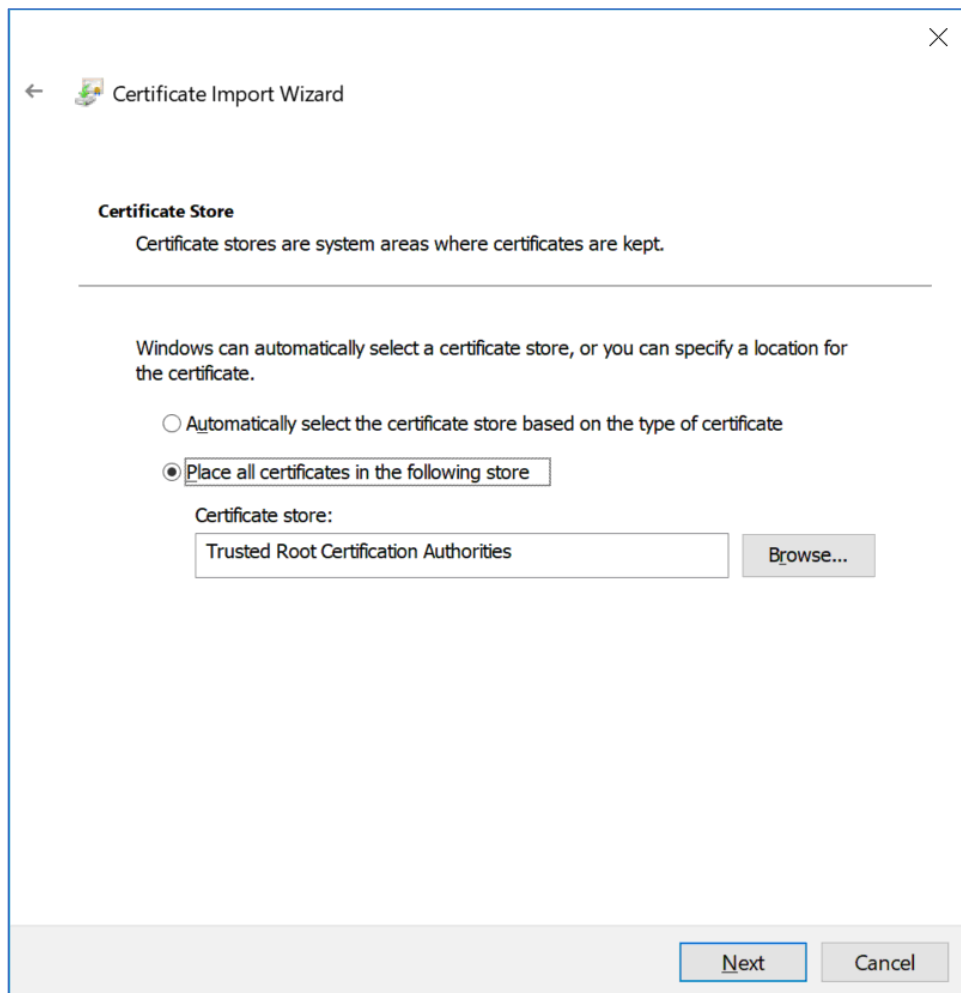

Figure 341: Windows Certificate Import Wizard-Choose Certificate Store
8. Click on the Browse button, then select “Trusted Root Certification Authorities.” When the Certificate Store parameter completes, click on the Next button. The Certificate Store screen is shown in Figure 341.